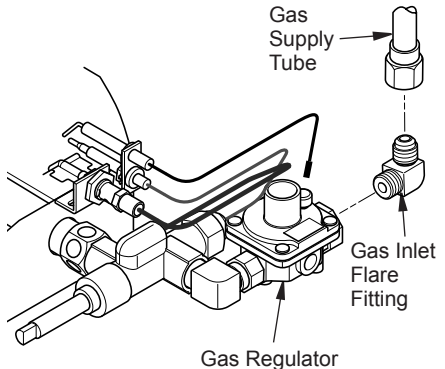

Figure 14
11. Carefully shape the gas supply tube and attach to gas inlet fitting as shown in Figure 14. Be careful not to cause kinks in tube.